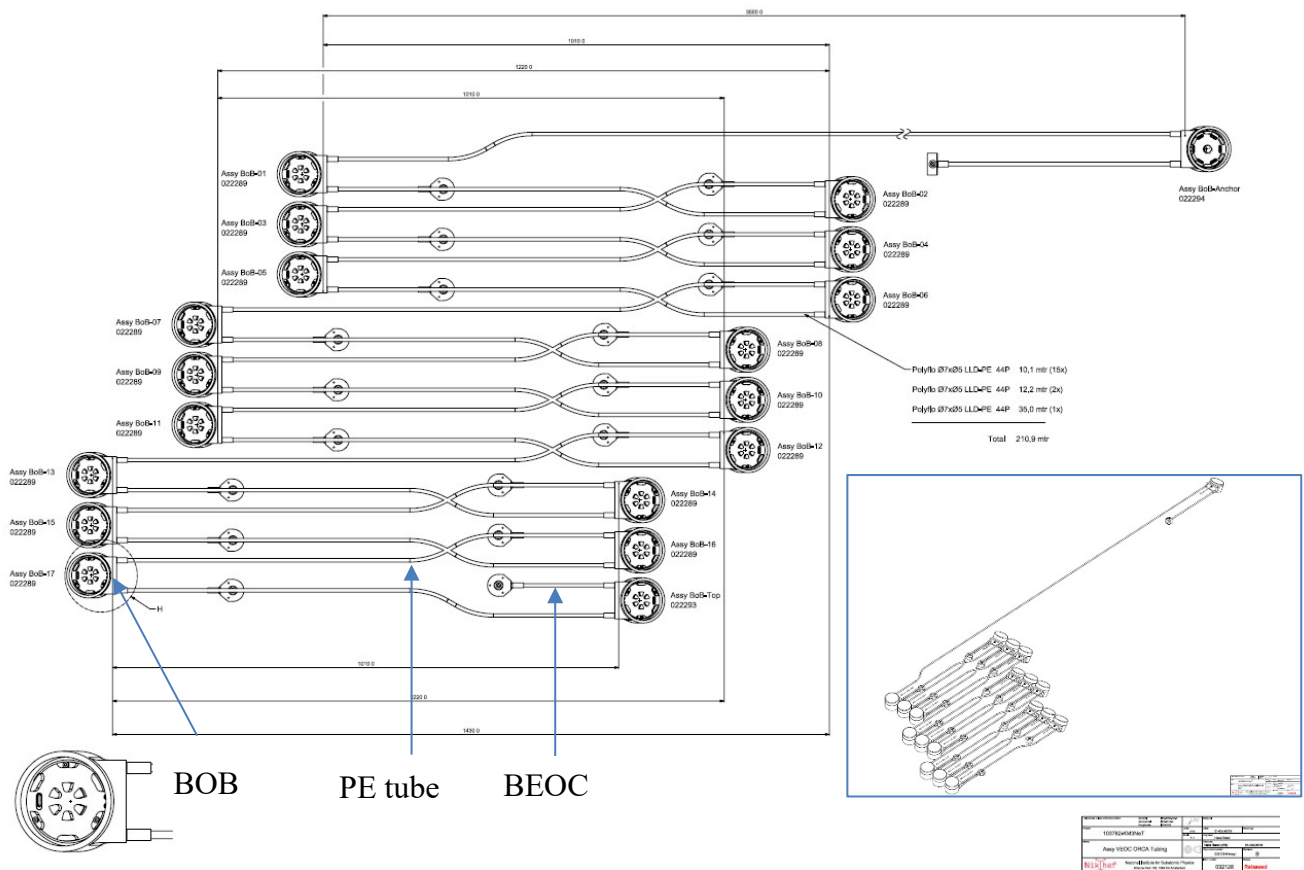

Figure 1 Technical drawing of a completed VEOC. Note the anchor BOB with longer BEOC compared to DOM BOBs on the upper right.
The VEOC starts at the point where 24 fibers (18 for the DOMs and 6 spares) and 2 copper wires exit the KM3NeT Base Module (BM) that is mounted on the anchor through the so-called base penetrator. The VEOC ends at the level of the top DOM, DOM18. A schematic drawing of a complete ORCA VEOC is shown in Figure 1 and a drawing of the VEOC routing at the DOM level in the final DU configuration is shown in Figure 2.